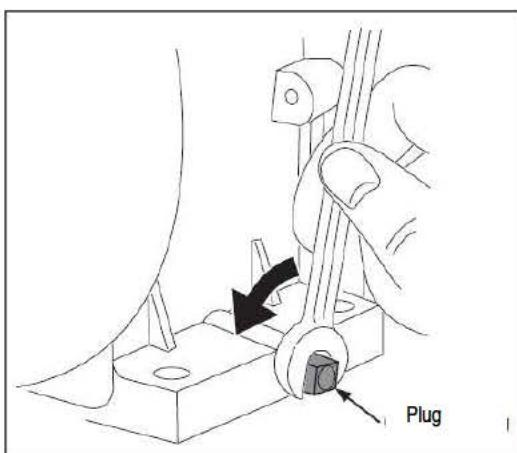

Figure 16
3. Remove the oil drain plug. See figure 16.